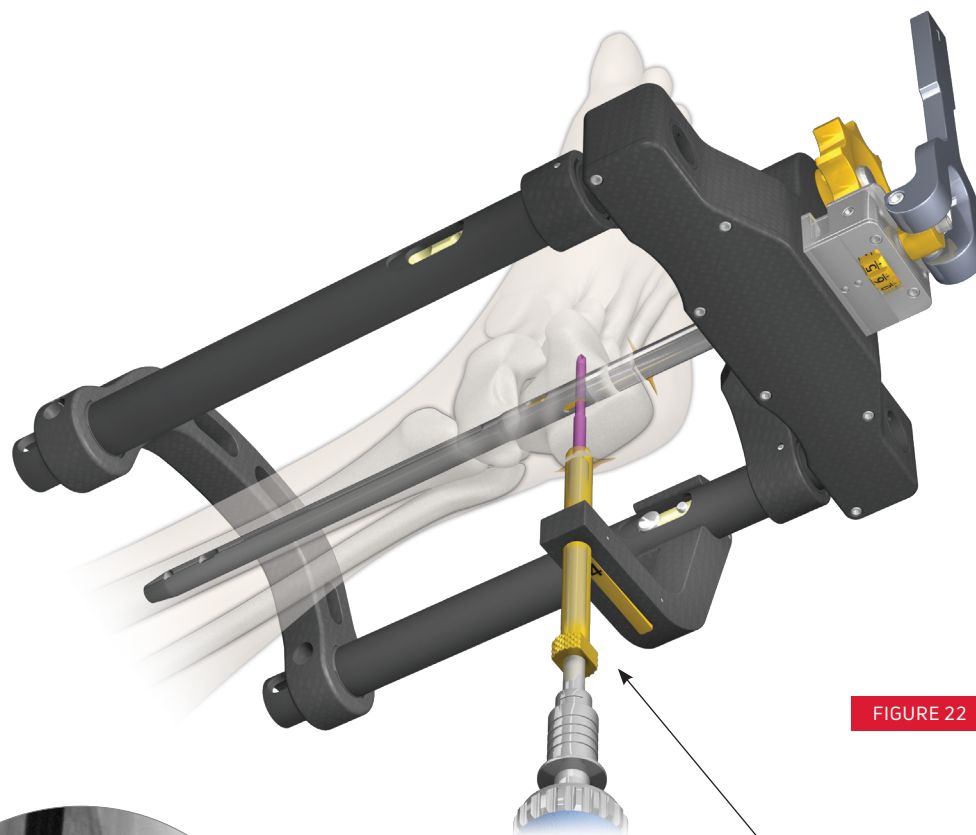

FIGURE 22
Attach the Wide 3.5 mm Hex Driver to a power drill and a second standard 3.5 mm Hex Driver to the Blue-Handle Ratchet Driver. Remove the 4 mm Drill and Drill Guide from the Guide Sleeve. Insert the Headless PA Screw through the Guide Sleeve using the Wide 3.5 mm Hex Driver loaded on the power drill until the screw has passed through the Nail Implant (FIGURE 22). Then switch to the Blue-Handle Ratchet Driver to continue to advance the screw until it is flush with the posterior calcaneus (E). Remove the Guide Sleeve from the PA Attachment. Remove the PA Attachment from the DynaFrame™ Assembly.